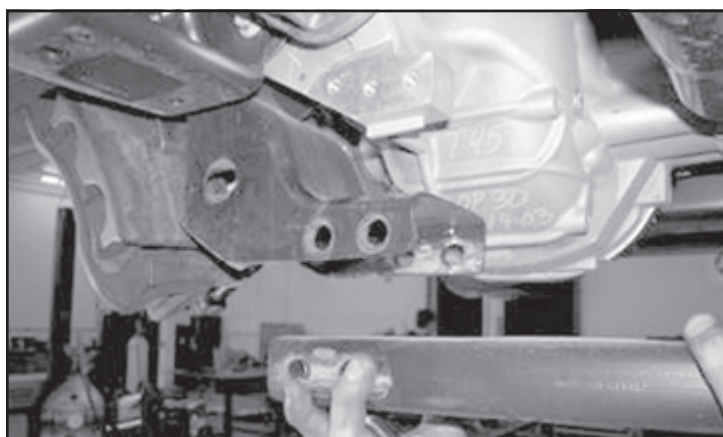

FIGURE 6 - STEP 13
13. Remove the factory rear crossmember from the vehicle and discard the crossmember and hardware. **SEE FIGURE 6**